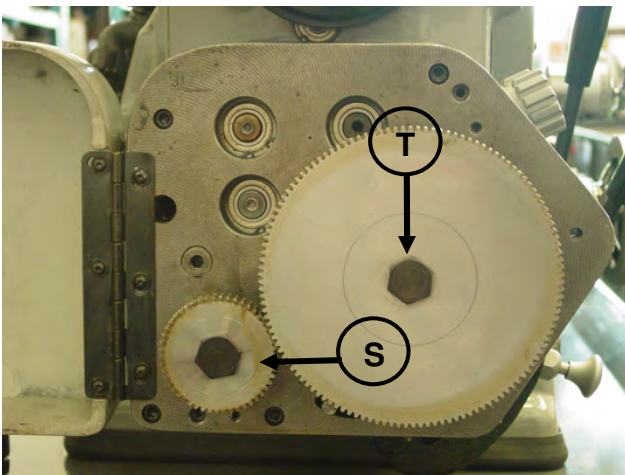
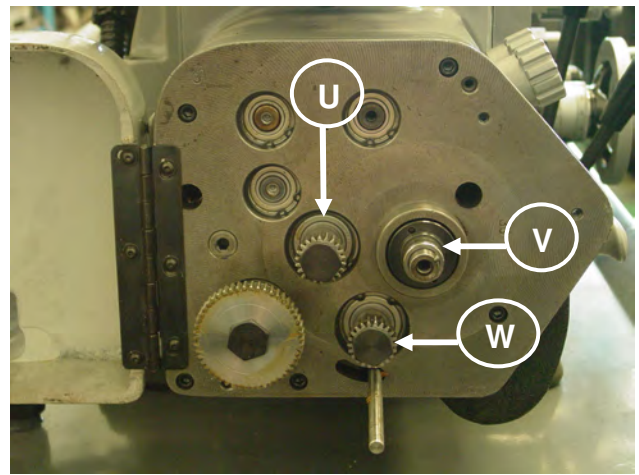
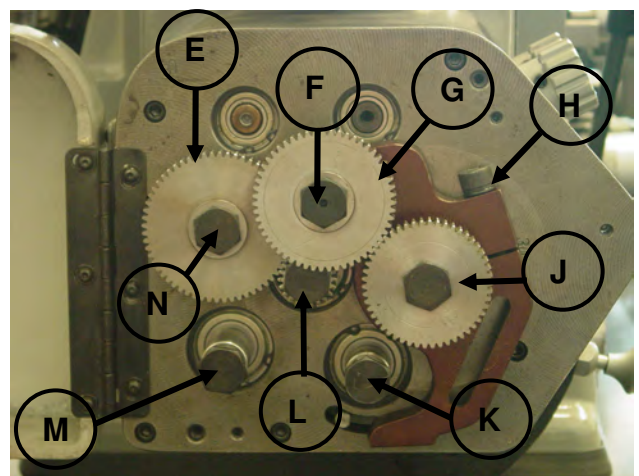

Figure 48-Thread Gearbox
Figure 49-Threading Gearbox
Figure 51-Mounting Change Gear Bracket
4. Loosen knob "S" (Figure 48), open gearbox door and remove 50 tooth gear "S" (Figure 48), and 127 tooth gear "T" (Figure 48). Do not misplace key under 50 tooth gear.
5. If thread chart specifies number of teeth in "First Gear" to be other than 22 teeth, remove gear "U" (Figure 49), and replace with specified gear.
6. Remove tumbler gear "W" (Figure 49).
7. Mount Change gear bracket assembly, Figure 48, on pivot post "V" (Figure 49). Do not tighten bracket bolt "H" (Figure 51), fully.
8. Make certain key is in place and mount "Screw Gear" "J" (Figure 51). Replace bolts "K" (Figure 51) and "M" (Figure 51).
9. Adjust "Second Gear on Stud" "G" (Figure 51), with 0.08"-0.010" backlash between it and "Screw Gear" "J" (Figure 51). Use plastic shim stock to help determine backlash. Tighten bolt "F" (Figure 51).
10. Adjust "Idler Gear" "E" (Figure 51) with 0.003"-0.004" backlash between it and "First Gear on Stud" (behind "Second Gear on Stud" in picture). Tighten bolt "N" (Figure 51).
11. Pivot bracket to obtain 0.003"-0.004" backlash between "First Gear" "L" (Figure 51) and "Idler Gear" "E" (Figure 51). tighten bracket bolt "H" (Figure 51).
NOTE : (a) 50 tooth gear "S" (Figure 48), and 127 tooth gear "T" (Figure 48) must be remounted (without bracket) to obtain metric thread pitches through gearbox.
(b) When disassembling setup, remount 22 tooth gears "U" (Figure 49) and "W" (Figure 49).